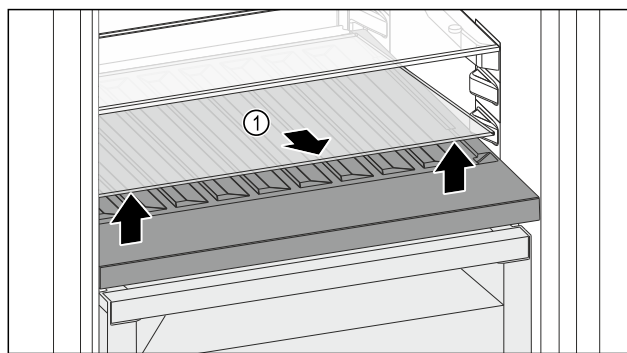

Fig. 89
- Lift the glass shelf Fig. 89 (1) at the front and remove.
- Store the glass shelf Fig. 89 (1) in a safe place outside the appliance.